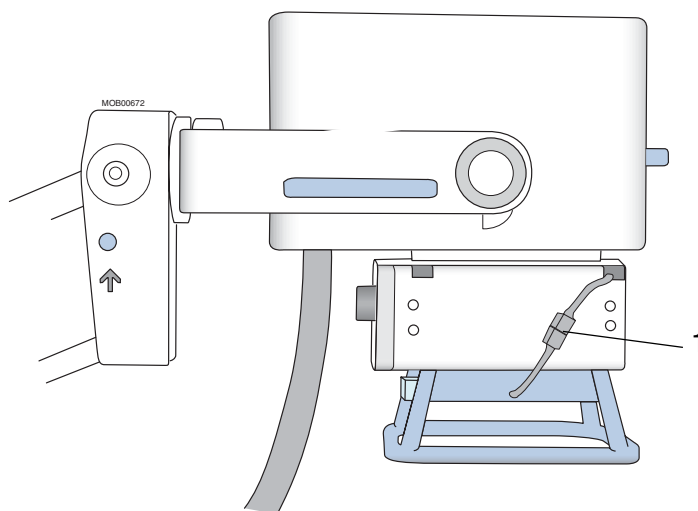

Fig. 1 Connector
- Disconnect the DAP ionization chamber connectors (pos. 1 / Fig. 1).
- Remove the DAP calibration tool and reconnect the DAP ionization chamber as shown in (pos. 1 / Fig. 1).